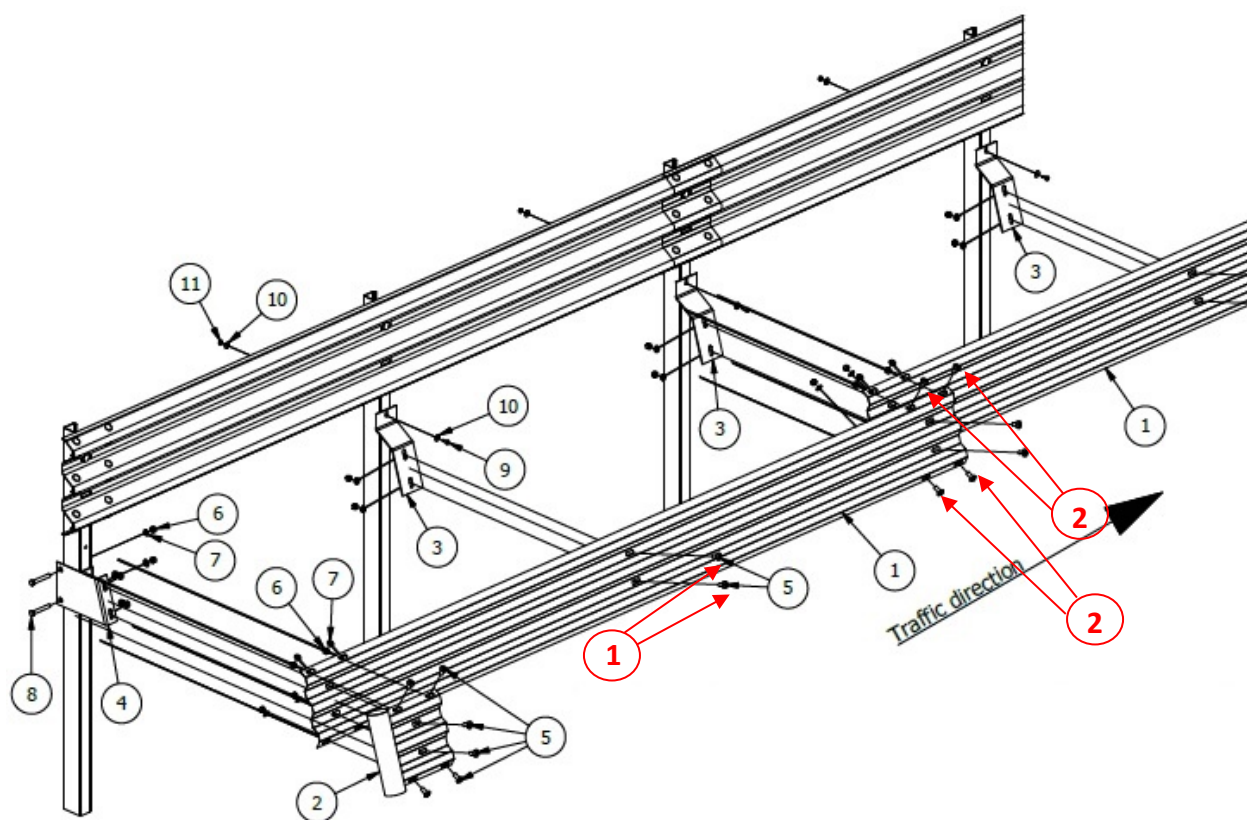

Figure 4. Attachment of the RiderPro Beams to the ACP Sentry Thrie Beam Barrier System.
Position the **RiderPro** beams below and parallel to the thrie beam guardrail. Attach them to the mounting brackets with two M16 x 35 mm guardrail bolt (Ref. ① in Figure 4) using standard nuts and round washers, but do not fully tighten them yet.
Splice beams together using four M16 x 35 mm 8.8 guardrail bolts (Ref. ② in Figure 4), standard nuts and round washers.